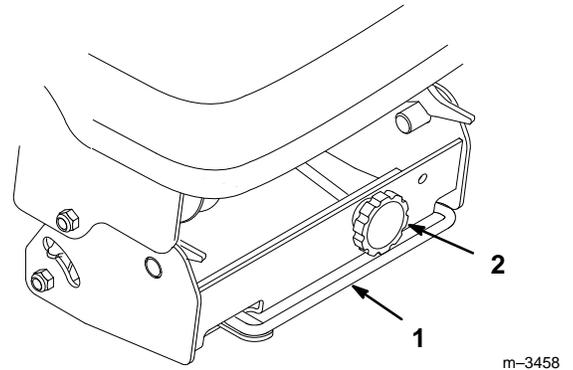

Figure 19
- Release the belt tension release arm on the pulley box to release the tension on the drive belt (Fig. 19).